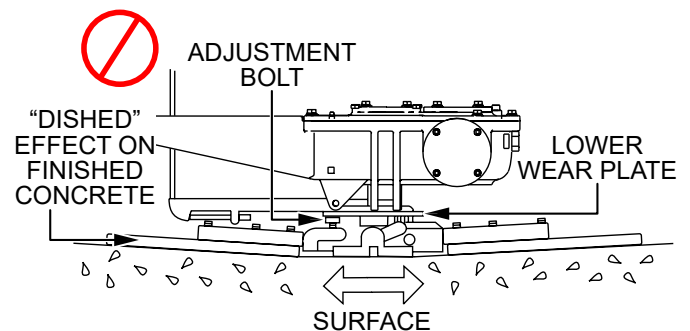

Figure 47. Incorrect Spider Plate Alignment
2. Pitch the blades as flat as possible. The adjustment bolts should all barely make contact with the lower wear plate on the spider. If one is not making contact, adjustment will be necessary (Figure 47).
Figure 47 illustrates incorrect alignment, worn spider bushings, or bent trowel arms. Check that the adjustment bolt is barely touching (0.10" max. clearance) the lower wear plate. All alignment bolts should be spaced the same distance from the lower wear plate.